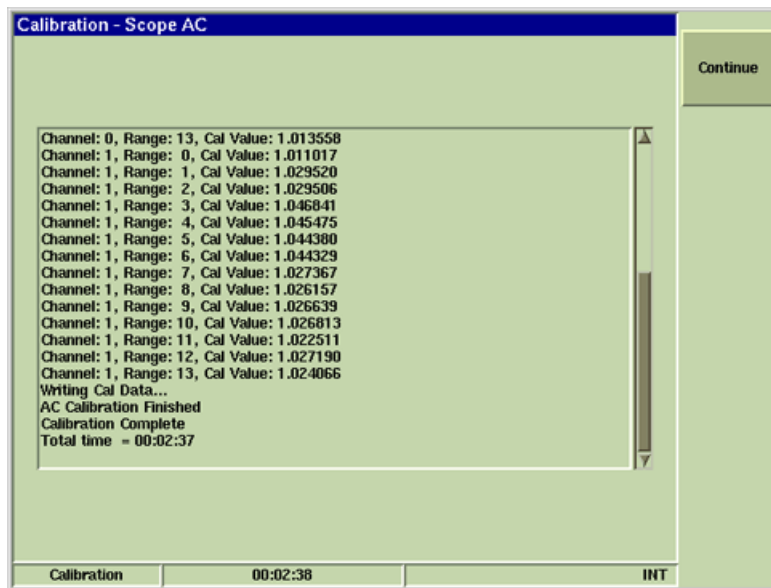

Fig. 4-39 Scope AC Calibration Complete
- When the Scope AC Calibration Procedure is complete, verify Calibration Complete is displayed on screen in dialog box as shown in Fig. 4-39.